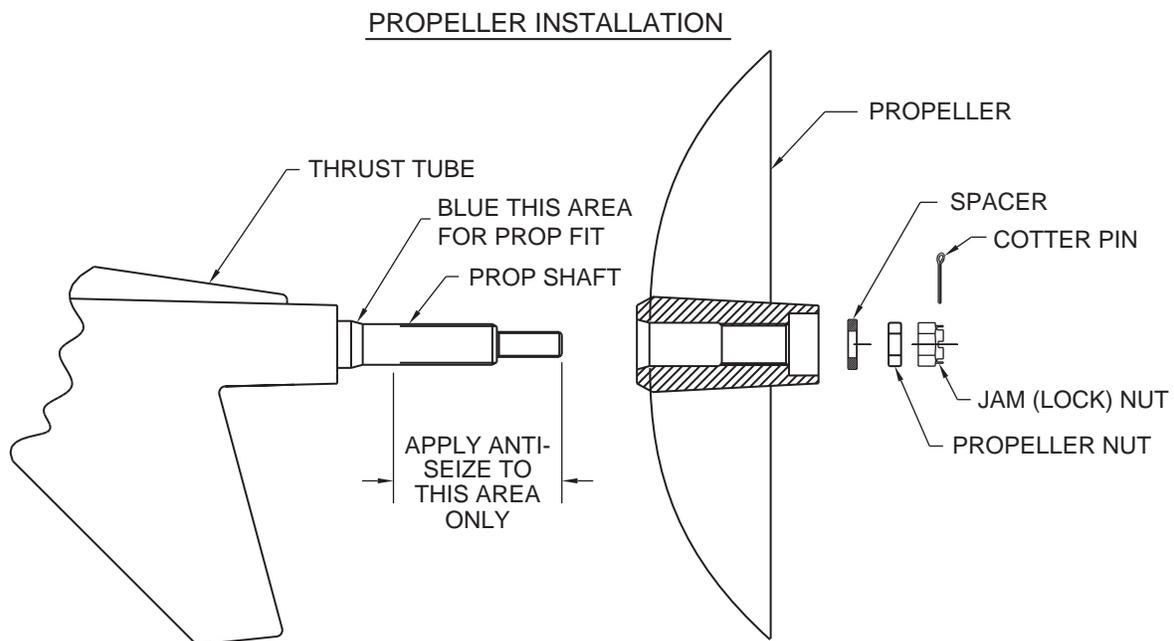

Figure 22. Propeller Installation
1. Apply a thin coat of anti-seize lubricating compound to the propeller shaft as shown in Figure 22. The anti-seize should not contain graphite or molbdenum disulfide, such as Loctite® White HI-Temp anti-seize.
2. Install the propeller, thrust washer, propeller nut, lock nut, on the shaft as shown in Figure 22. Torque the propeller nut to 640 - 710 N-m (450 - 500 ft.-lbs). Torque the jam (lock) nut to 500 - 570 N-m (350 - 400 ft.-lbs). Approach the lower value, then continue until a cotter pin slot in the nut aligns with the hole in the shaft. Install the cotter pin.